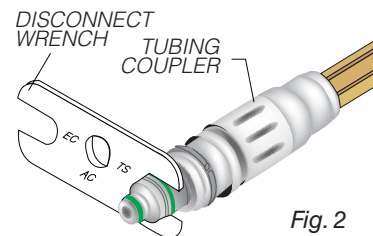

Fig. 2
- Use the disconnect wrench, StarDental Part #203048, to tighten the swivel to the tubing coupler. Be sure to turn the tubing coupler while holding the swivel in place. DO NOT OVERTIGHTEN. (Fig. 2)